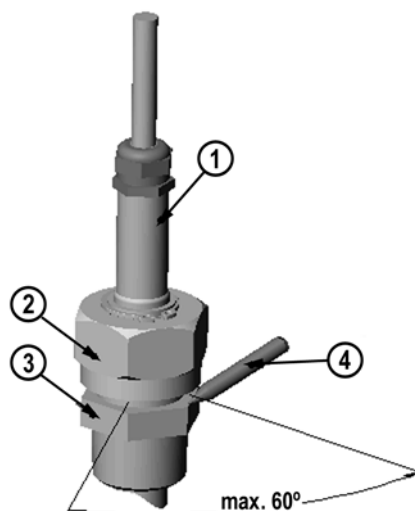

Figure 14 **Tightening the Clasp Nut**
The following numbers refer to Figure 14 on page 32:
10. Tighten the clasp nut with a fork spanner a further 50 ... 60° (ca. 1/6 turn). If you have a suitable torque spanner, tighten the nut to max 45 ± 5 Nm (33 ± 4 ft-lbs). Refer to Figure 14 on page 32.